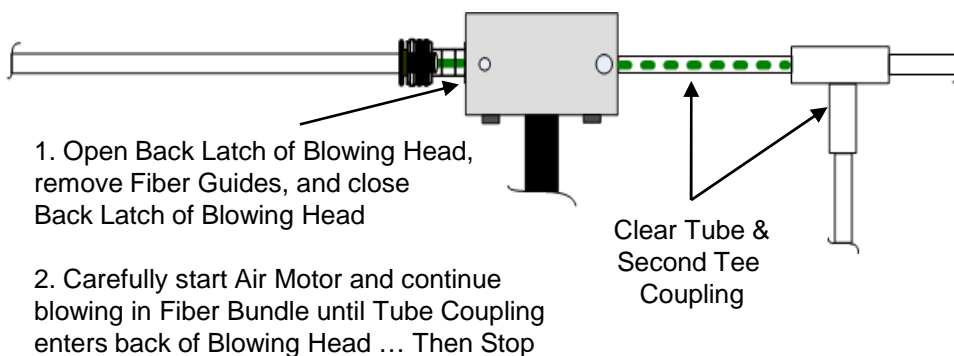

Figure 7B
9.9 Blowing Head #2 Operator slowly opens Motor Rate Control Valve and moves fiber bundle and Tube Coupling into back of Blowing Head #2. **See Fig. 7B.**